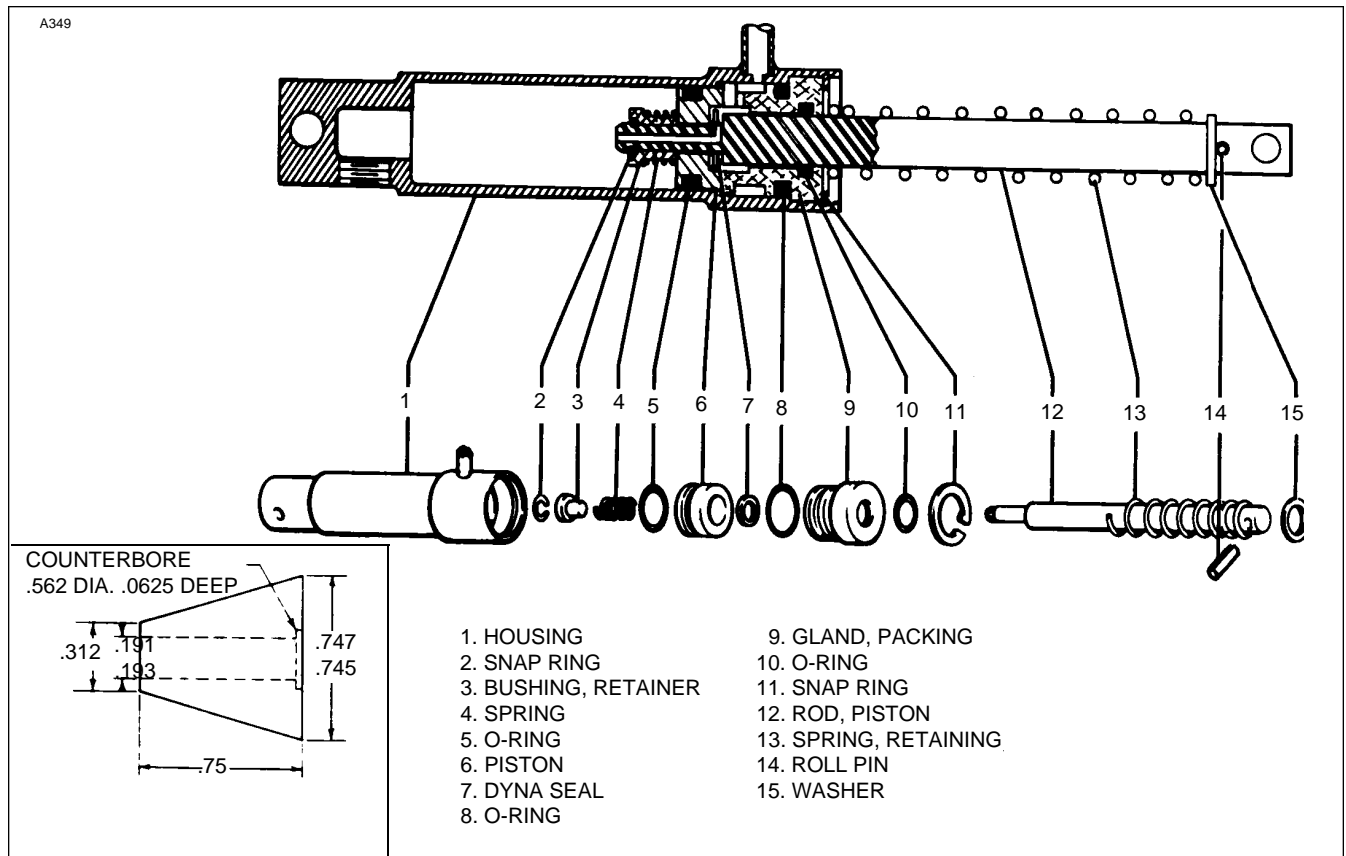

Figure 7-13. Brake Master Cylinder (Hand/Parking Brake)
7-36. DISASSEMBLY OF BRAKE MASTER CYLINDER. (Refer to Figure 7-13.)
7-38. ASSEMBLY OF BRAKE MASTER CYLINDER. (Refer to Figure 7-13.)
- a. Install new O-rings on the inside and outside of the packing gland (9) and on the outside of the piston (6). (When installing teflon O-ring (5) on piston, it is recommended that it be installed with the use of a cone placed against the piston. The cone may be constructed of plastic or metal, from dimensions shown in Figure 7-13.)
- b. To assemble the piston rod assembly, install the following parts on the rod (12) in order, the roll pin (14), return spring retainer washer (15), return spring (13), packing gland (9) with new O-rings, seal (10), piston (6) with new O-ring, spring (4) and retainer bushing (3). Secure these pieces with the small snap ring (2) on the end of the rod.
- c. Insert the piston rod assembly in the cylinder (1) and secure the packing gland with snap ring(11)